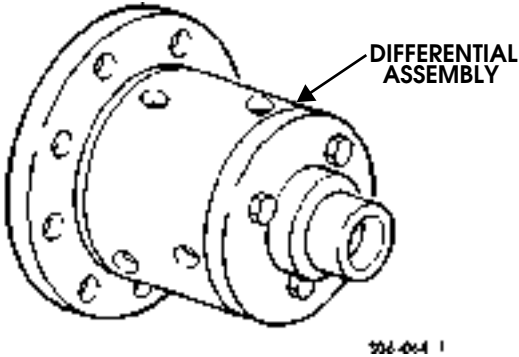

Figure 9-79: Differential Assembly
- 5. Inspect differential assembly case for damage (Figure 9-79).